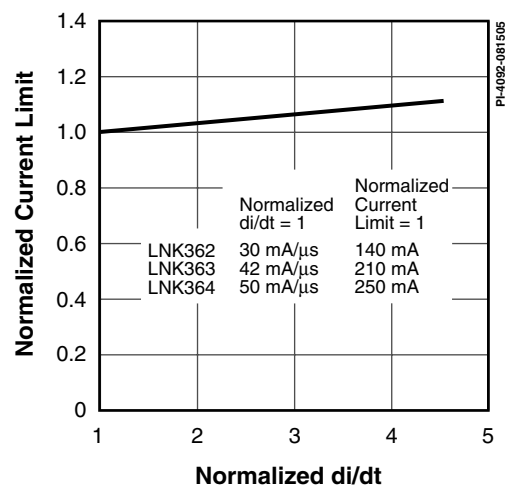

Figure 13. Current Limit vs.  $di/dt$ .
- E. For current limit at other  $di/dt$  values, refer to Figure 13.